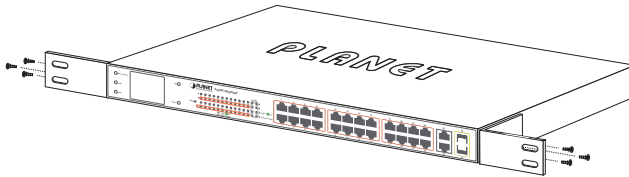

Figure 3-2: Attaching the Brackets to the 802.3at PoE+ Switch
Step 2: Attach a rack-mount bracket to each side of the 802.3at PoE+ Switch with supplied screws attached to the package. Figure 3-2 shows how to attach brackets to one side of the 802.3at PoE+ Switch.